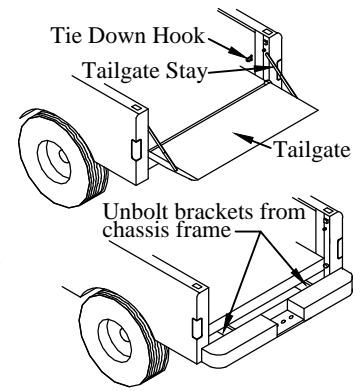

Figure 5: Remove Hardware.
- 2. Unbolt** the tie down hooks (Figure 5).